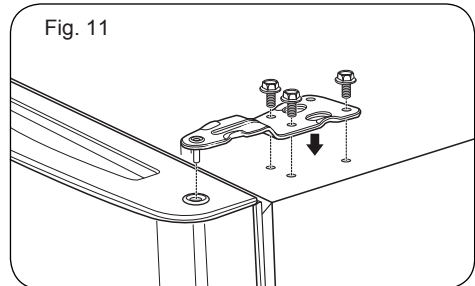

Fig. 11
- Place upper hinge in the top of the freezer door and line up the hinge with the holes in top of refrigerator. Use the three bolts to fasten the hinge (See Figure 11).